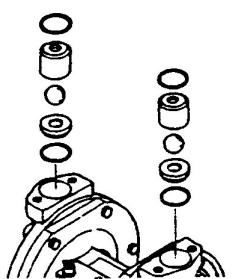

Fig.4.2
- Remove the O-ring, ball guide, ball and valve seat. [Fig. 4.2]